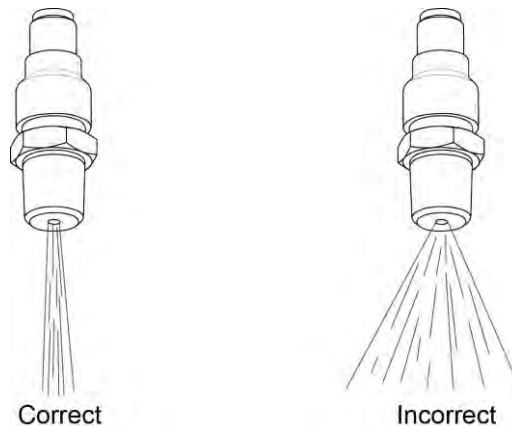

Figure 11
- G. Examine the fuel flow from each injection nozzle to make sure the fuel stream is not scattered (which is an indication of blockage in the injection nozzle) identified as “Incorrect” in Figure 11.